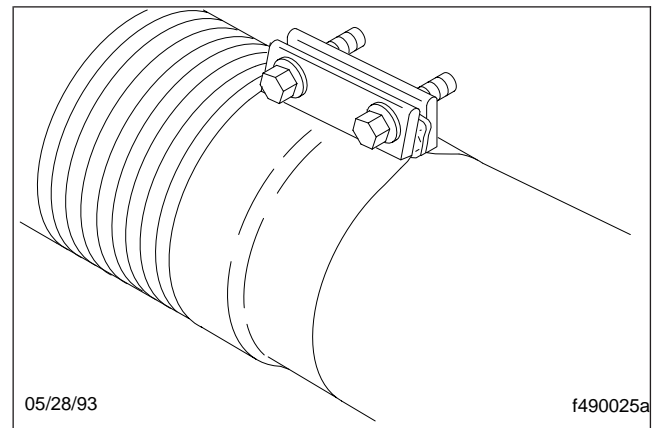
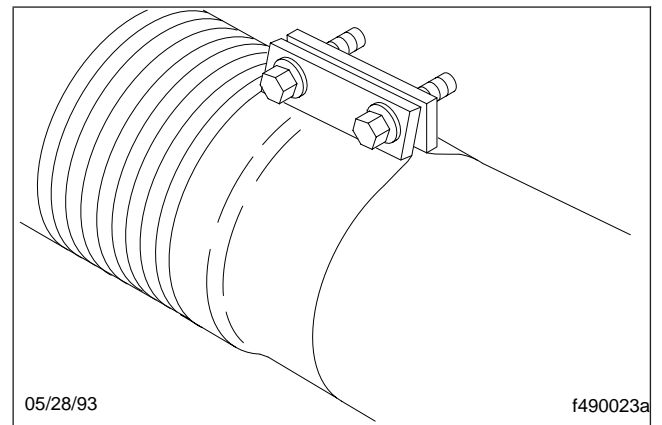
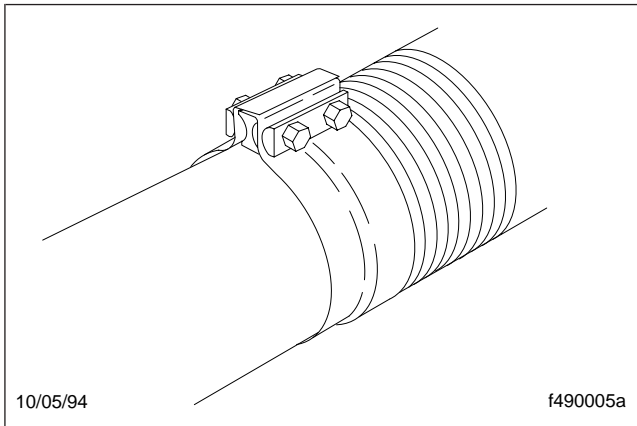

Fig. 2, Donaldson Seal Clamp Wide-Band Exhaust Clamp
Fig. 3, Riker Tru-Seal Wide-Band Exhaust Clamp
Fig. 4, Torca Torcrite Wide-Band Exhaust Clamp
7. Check for leakage at all wide-band exhaust clamps. See **Fig. 2**, **Fig. 3**, or **Fig. 4**.